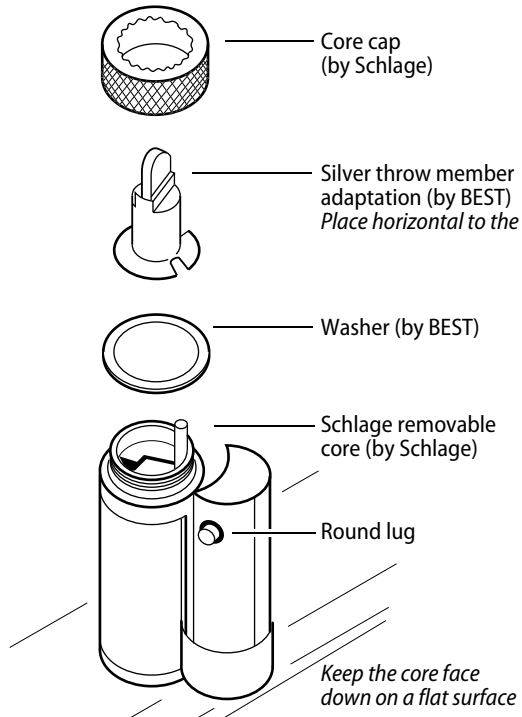
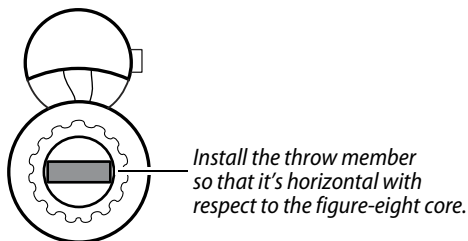

Figure 5 Putting the washer, throw member and core cap onto the Schlage core
Figure 6 Rear view showing the throw member blade oriented horizontally
- 3 Keeping the core face down, put the provided washer on the back of the core as shown in Figure 5.
- 4 Keeping the core face down, put the provided throw member on the back of the core as shown in Figure 5. **Put the throw member blade horizontal to the core** as shown in Figure 6.